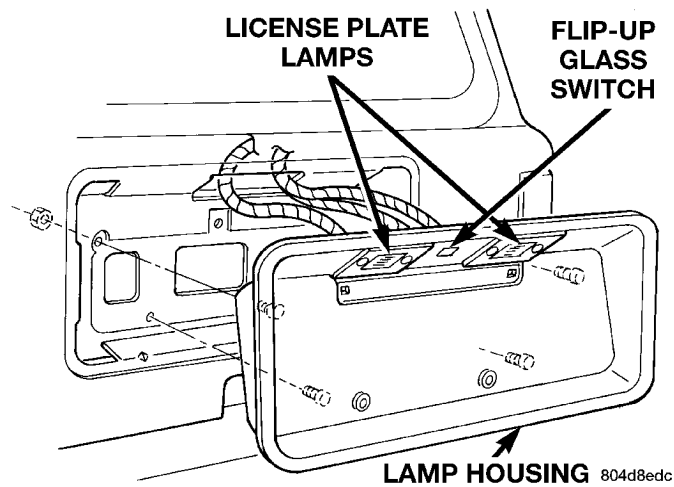

Fig. 71 License Plate Lamp Housing
- (1) Remove liftgate trim panel
- (2) Remove lamp housing retaining screws from liftgate (Fig. 71).
- (3) Disconnect bulb socket from lamp housing.
- (4) Disconnect Flip-Up glass switch connector, if equipped.
- (5) Remove housing from liftgate.